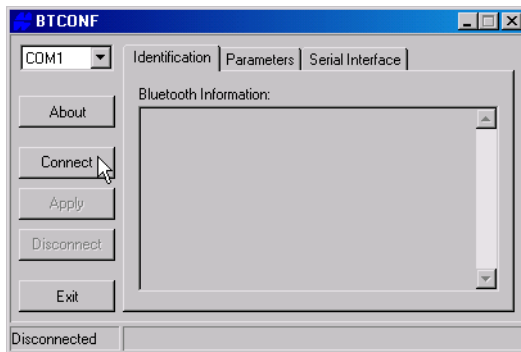

Figure 2-28. Select Communication Port and Click Connect
3. From the drop-down list in the upper left corner, select the computer serial port (usually COM1) used for communication (Figure 2-28 on page 2-44).
4. Click **Connect** to connect the computer and Bluetooth module (Figure 2-28).